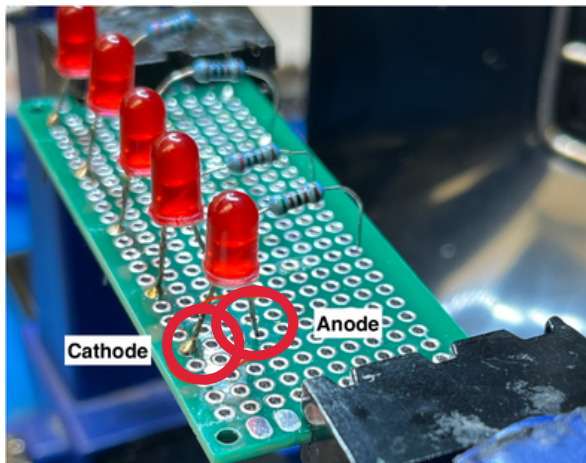

Figure 2a
**2.** Start your board by placing the cathode in the top row of your board, skip two holes as seen in Figure 2a, and insert the anode into the third hole below the cathode.